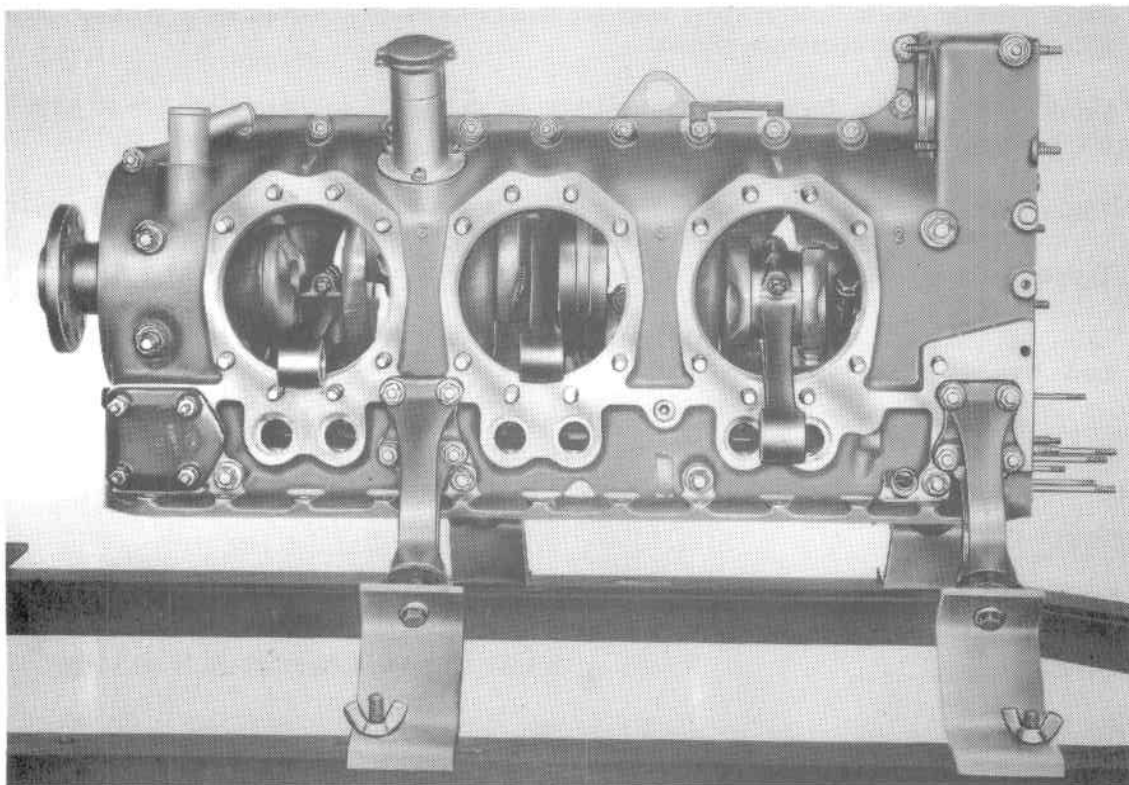

FIGURE 72-60-02. LEFT SIDE OF COMPLETED CRANKCASE ASSEMBLY.
G. After installing all pistons and cylinders, tighten and torque nuts according to sequence shown in Figure 72-60-02, Torquing Sequence.